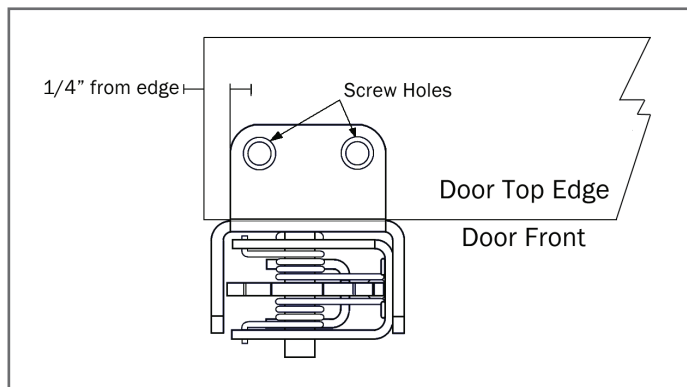

Figure 3
6. Lay the door on a flat, stable surface ensuring the side the latch is to be installed on is facing up (Figure 3).
7. Position the latch plate 1/4 " from the edge of the door (Figures 3 & 4). Mark the hole placement for the latch on the top door edge and the front of the door. Drill pilot holes for screws.